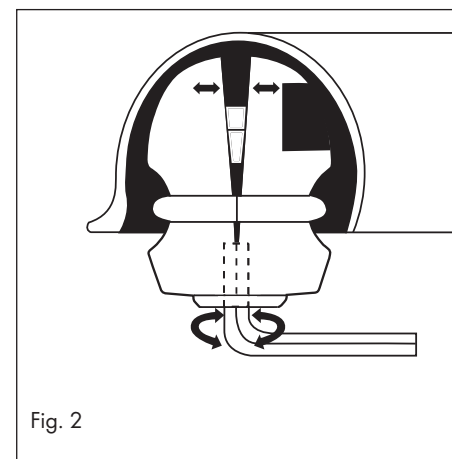

Fig. 2
5. Turn the Allen key anticlockwise until the trailer anti-theft device sits firmly within the coupling (see Fig. 2).
3. Turn the Allen key clockwise until the trailer anti-theft device allows itself to be released from the coupling (see Fig. 2).